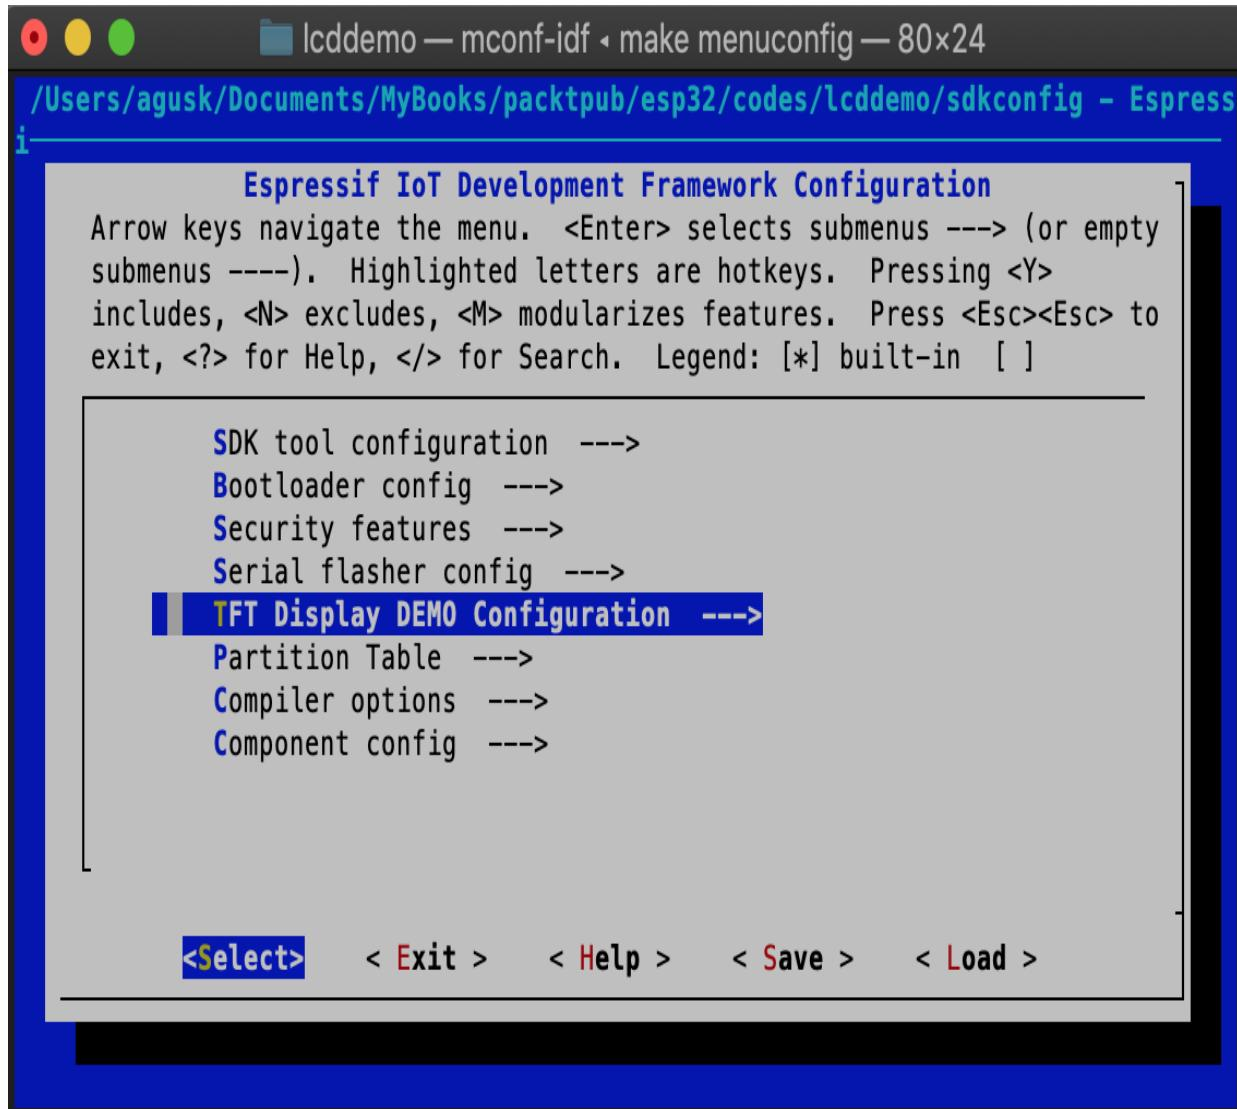

Figure 2-9: Configuring the TFT Display demo
3. You will get a form as shown in Figure 2-9. Select `TFT Display DEMO Configuration` from this form:
8. Next, we configure the flash size. Navigate back to the main menu as shown in figure 2-9.